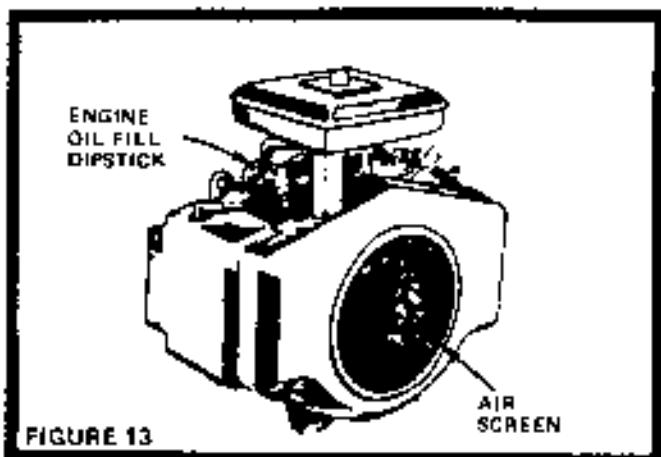

FIGURE 13
- b. Refill Engine Oil (Fig. 13) In summer use S.A.E. 30 (SC, SD, SE or SF) Oil. In winter (below 32°F.) use S.A.E. 10W30 (SC, SD, SE or SF). In extreme cold (below 0°F.) use S.A.E. 5W20 (SC, SD, SE or SF). DO NOT USE 10W40 OIL. Refill capacity is 3 pints. **NOTE: DO NOT OVERFILL.**
Several minutes after stopping Engine, check Engine Oil Level with Tractor on level ground. Wipe dipstick (Fig. 13) clean, push it down tight for a few seconds, remove and read Oil Level. If necessary, add Oil until "FULL" mark is reached. In summer use S.A.E. 30 (SC, SD, SE or SF) Oil. In winter (below 32°F) use S.A.E. 10W30 (SC, SD, SE or SF). In extreme cold (below 0°F) use S.A.E. 5W20 (SC, SD, SE or SF). DO NOT USE 10W40 OIL. NOTE: DO NOT OVERFILL.